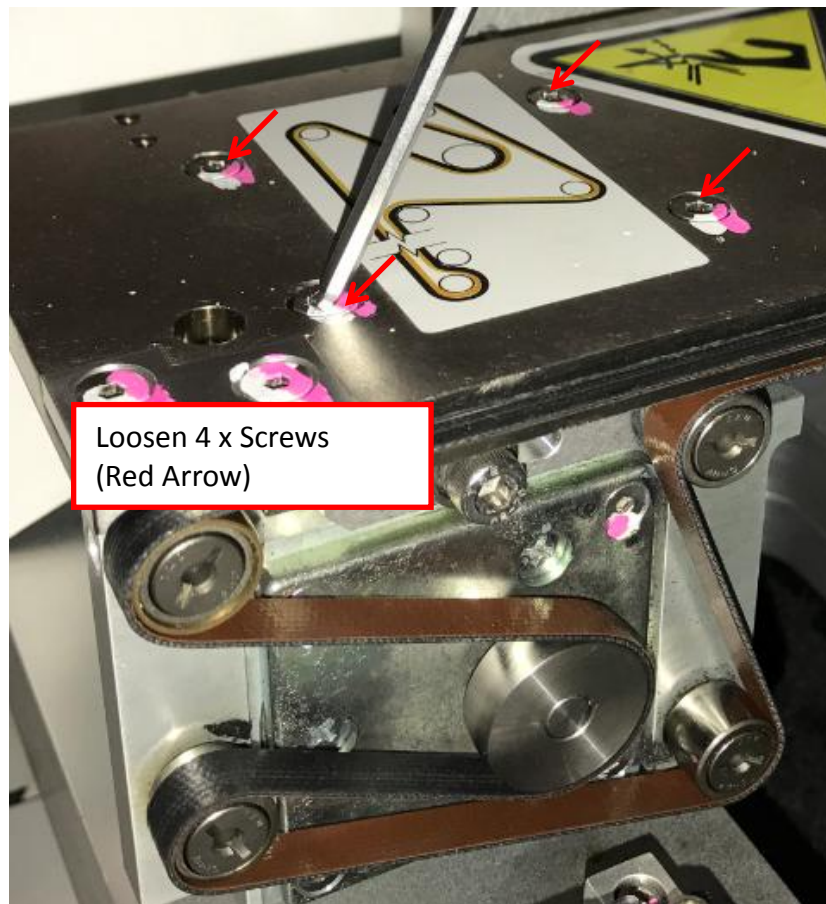

Figure 3 Adjustable Rail Motor Pulley
4. Loosen 4 x Screws. Remove Adjustable Rail Motor Pulley as shown in Figure 3 & 4
Remarks: Re-use screw from Figure 3